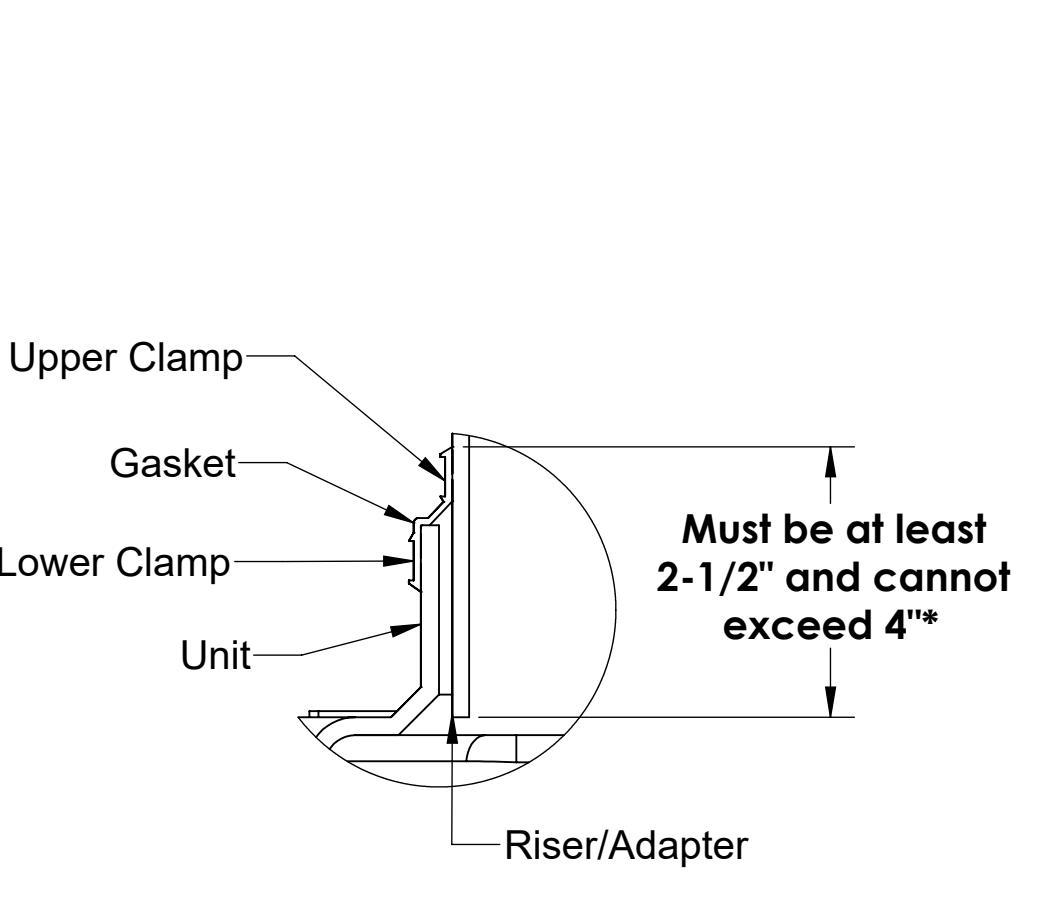

Figure 4
- Verify that the bottom of the lowest riser is protruding at least 2-1/2" but no more than 4" into the main unit from the top of the gasket. Your mark from step 7 should be at the top edge of the gasket on the main unit. If measurements were made correctly, this should happen automatically. See figure 4.
- If jobsite riser height conditions change after the above steps have been completed, there may still be room for vertical adjustment in both directions. As long as minimum and maximum overlaps are maintained (see Figure 4), the adapter/riser(s) can be adjusted/cut as many times as necessary. Please follow these steps from the beginning to ensure the proper overlaps are maintained.